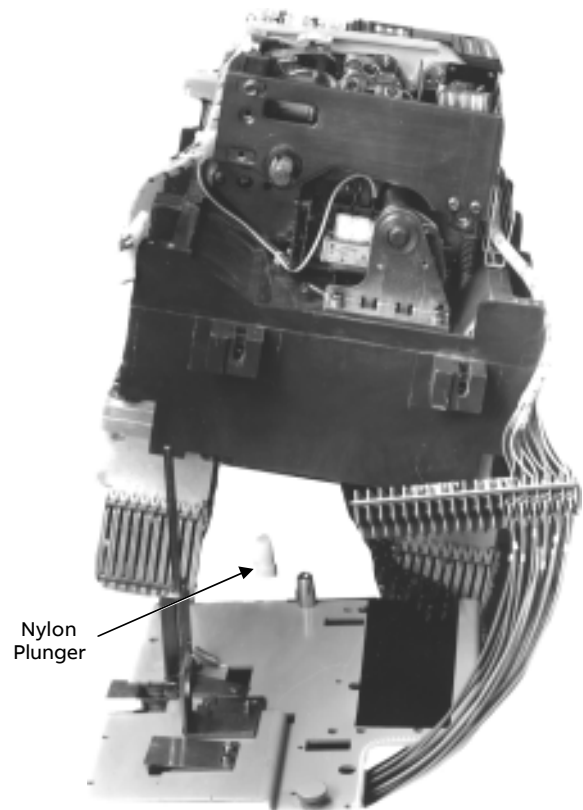

Figure 16. Breaker resting on its back, ready for installation of the Motor Operator Mechanism.
16. Turn the breaker so that it is resting on the primary disconnects, as illustrated in Figure 16. Be careful not to lose the white nylon plunger that will fall out from the back of the breaker, as it must be reinstalled when the breaker is reassembled.